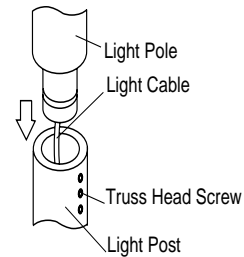

Fig.3-8-2 Fixing Light Pole to Light Post
(2) Pass the light cable through the light post and insert the light pole into the light post. Fix the light pole to the light post with truss head screw. (Fig.3-8-2)